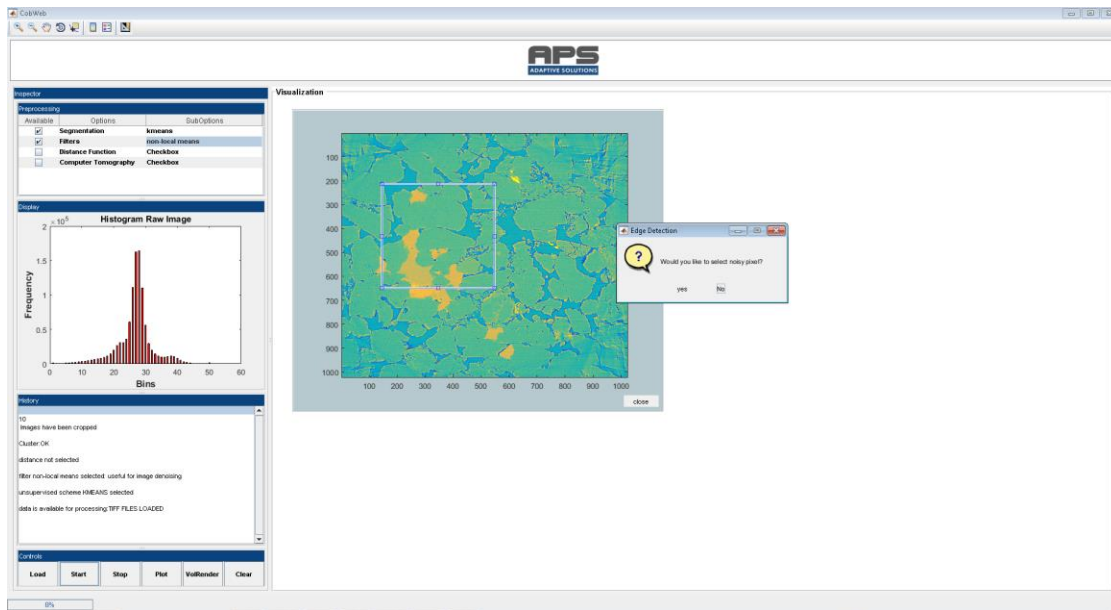

Figure 23: Noise pixel selection
- As shown in Figure 23, there is a possibility to assist the segmentation algorithm by giving a priori information about the noisy pixel. This option is **not useful for REV/ROI analysis**.
- Figure 23: This step can be **ignored** by clicking the default option **No**.